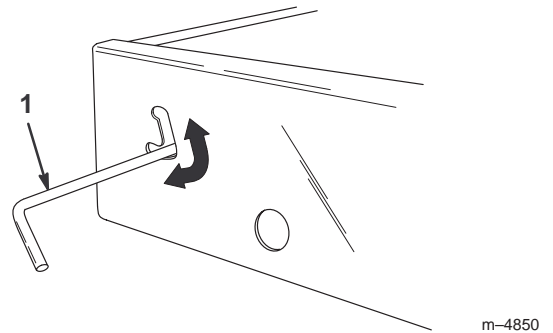

Figure 9
1. Slide the latch upward toward the top of the cutout in the bed frame (Fig. 9).
3. To secure the bed tightly to the bed frame, move the latch to the lower section of the cutout (Fig. 9).